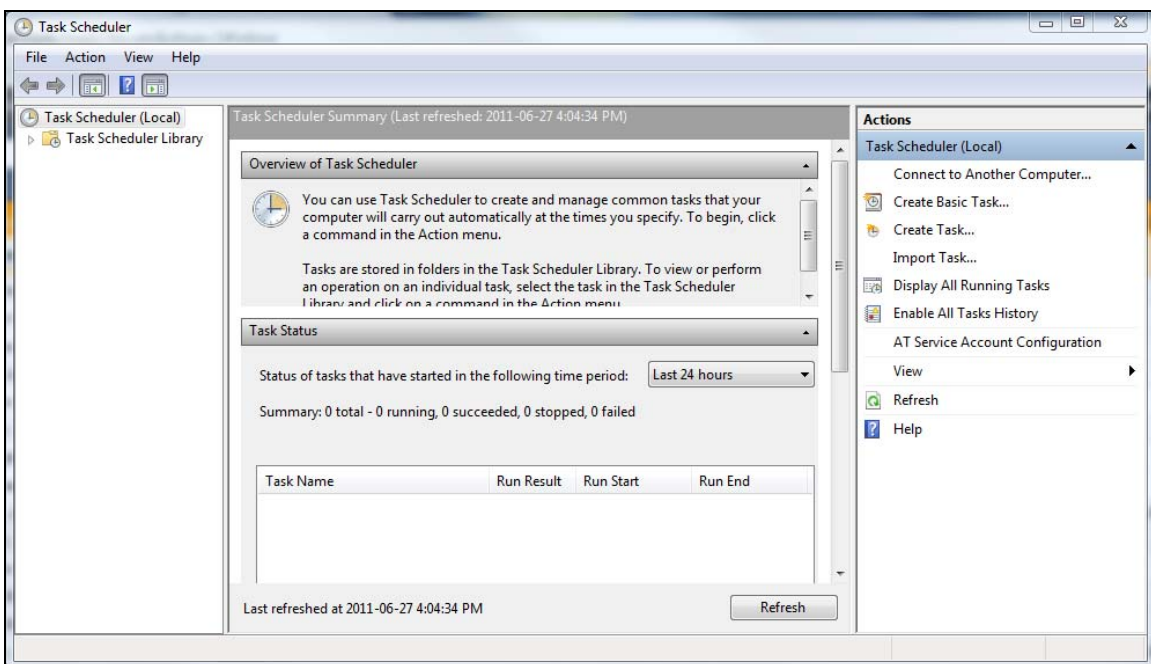

Figure 9: Windows Task Scheduler
- b. Select "Create Task" from the Actions list (Figure 9).